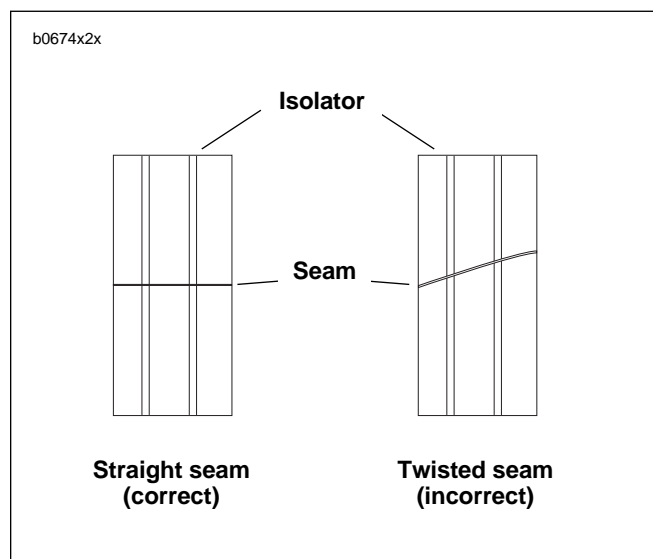

Figure 5. Isolator Alignment
- a. Place washer (2) over isolator bolt. Install assembly through isolators and into the swingarm mount block.
- c. See Figure 5. After tightening isolator bolts, verify that seam on isolators is perpendicular to swingarm mount block. If seam is not perpendicular loosen isolator hardware and realign.